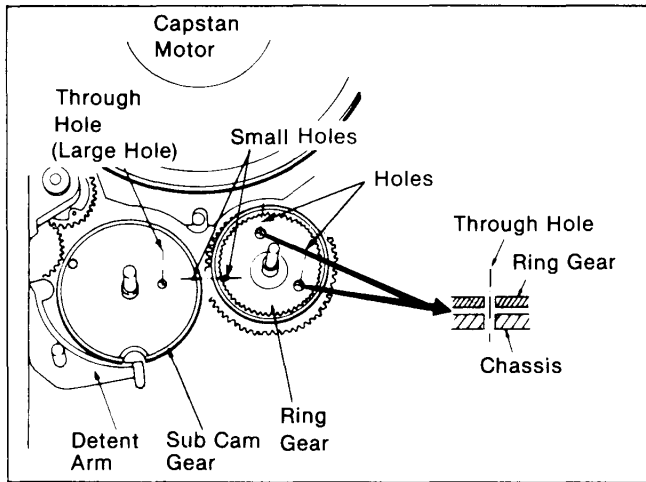

Figure M48
1. Install the Ring Gear so that the two holes on the Ring Gear align with the two holes on the chassis as shown in Figure M48.
2. Install the Sub Cam Gear so that the large hole on Sub Cam Gear aligns with the hole on chassis. Also the small hole (located just outside of large hole) on Sub Cam Gear should align with the hole on Ring Gear as shown in Figure M48.
4. Install the Detent Arm and make sure Detent Arm seats perfectly in detent of Sub Cam Gear as shown in Figure M48.